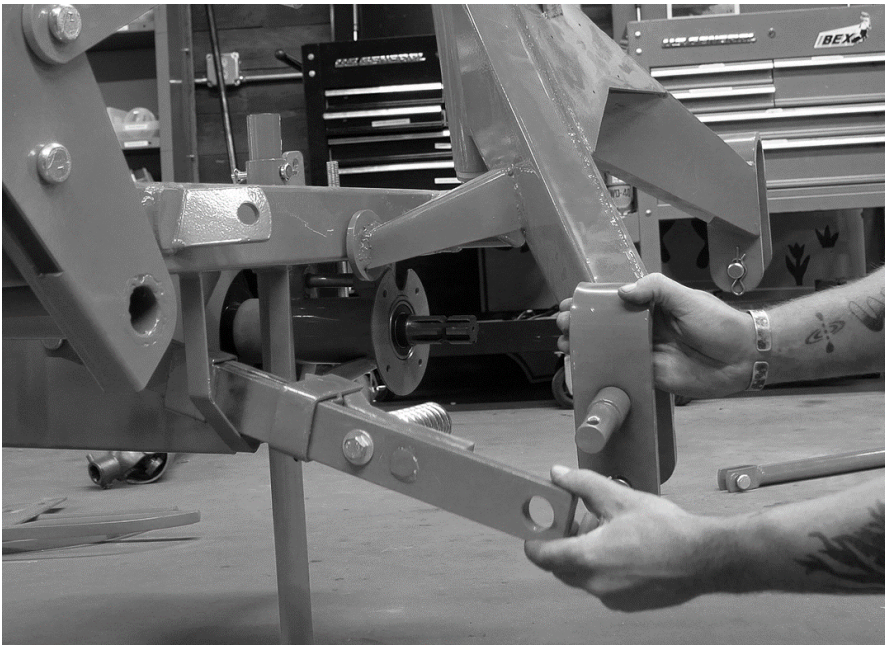

Figure 37
- Attach the breakaway bar to the inner pin of the 3-point frame (the same pin that held the transport lock bar) as shown in Figure 37 and secure it with a linchpin.